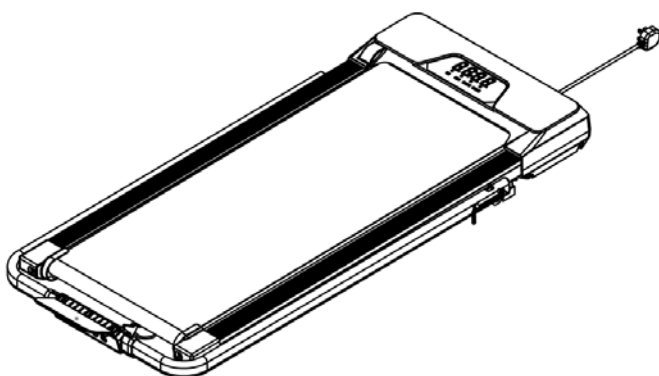

Figure 5
D: (Figure 5) folding treadmill. When folding treadmill is required, remove (18) 2 PCS screws M8 * 20 and (19) 2PCS $\phi 8$ flat gasket after the handle. Put the column flat on the ground !